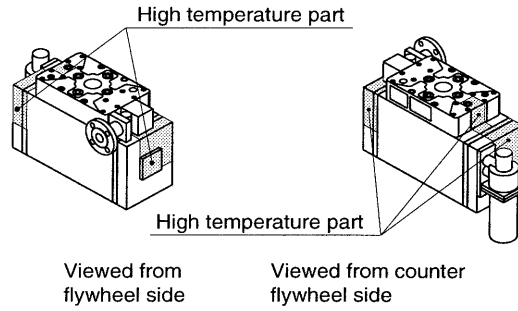

Fig. 5
* ***During operation and just after the compressor has stopped, never touch the cylinder head and cooler cover that become very hot. (Fig. 5)***